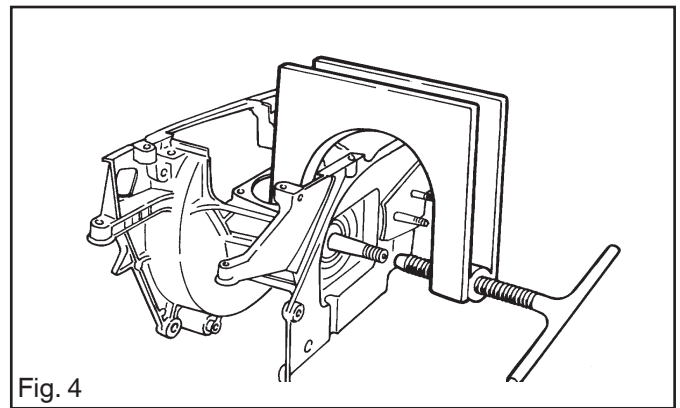

Fig. 4
4. Remove the six bolts on the flywheel side. See fig. 4.
5. Fit tool 4310048-67 as shown in fig. 4 and remove the crankcase half on the clutch side.
6. Remove the crankcase half on the flywheel side in the same way as item 4 above.